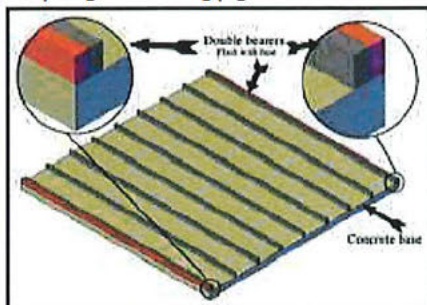

FIG 1
1. Lay out pressure treated base floor joist timbers as fig 1 (It is recommended that you place a piece of damp proof strip under each joist).